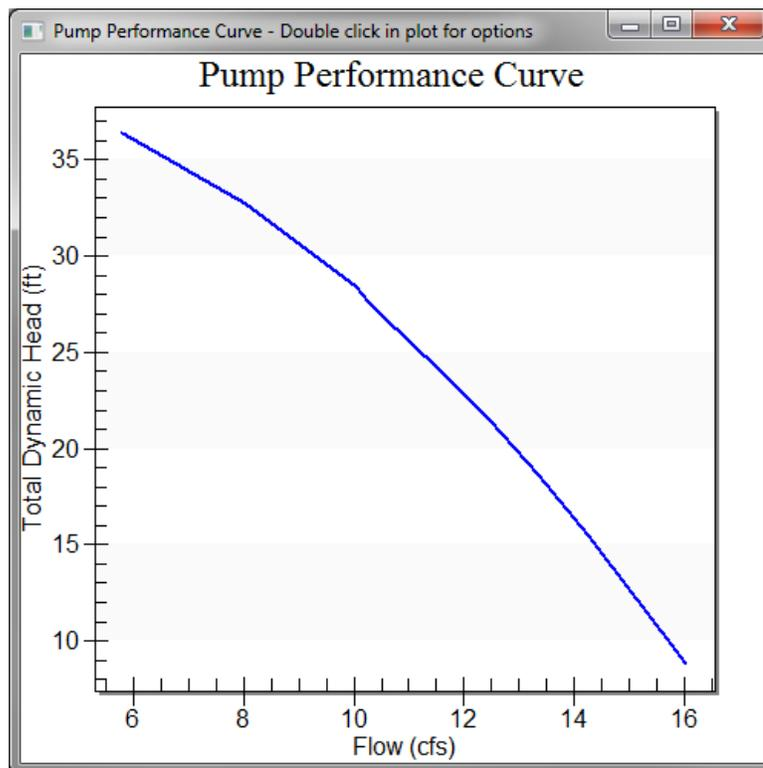

Figure 6 Pump Performance Curve dialog
28. Click **Plot** to bring up the *Pump Performance Curve* plot dialog (Figure 6).